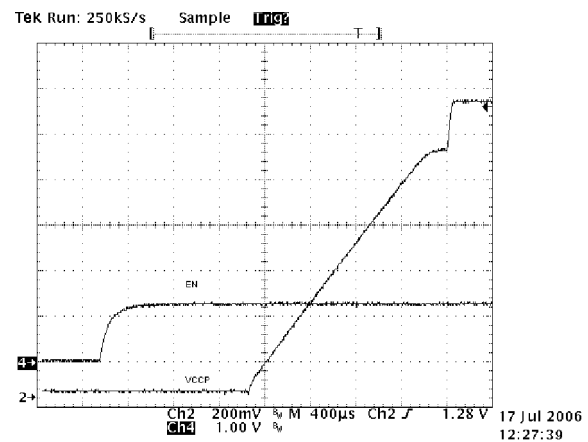

Figure 15. VR11 Startup
The controller supports two different startup routines. A legacy VR10 ramp to the initial VID code, or a VR11 Ramp to the 1.1 V VID code, with a pause to capture the VID code then resume ramping to target value based on an internal slew rate limit. See Figures 15 and 16. The controller is designed to regulate to the voltage on the SS pin until it reaches the internal DAC voltage. The soft-start cap sets the initial ramp rate using a typical 5.0 μA current. The typical value to use for the soft-start cap (SS), is typically set to 0.01 μF. This results in a ramp time to 1.1 V of 2.2 ms based on equation 1.